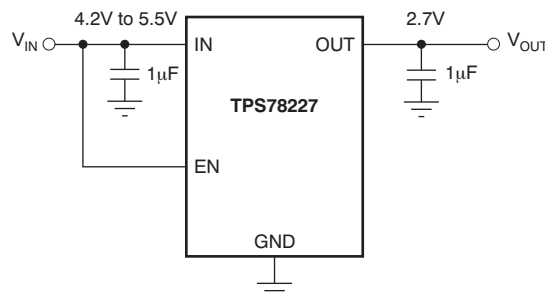

Figure 16. Circuit Showing EN Tied High when Shutdown Capability is Not Required
The enable pin (EN) is active high and is compatible with standard and low-voltage CMOS levels. When shutdown capability is not required, EN should be connected to the IN pin, as shown in Figure 16. The TPS782xx series, with internal active output pulldown circuitry, discharges the output to within 5% V_{OUT} with a time (t) shown in Equation 1: